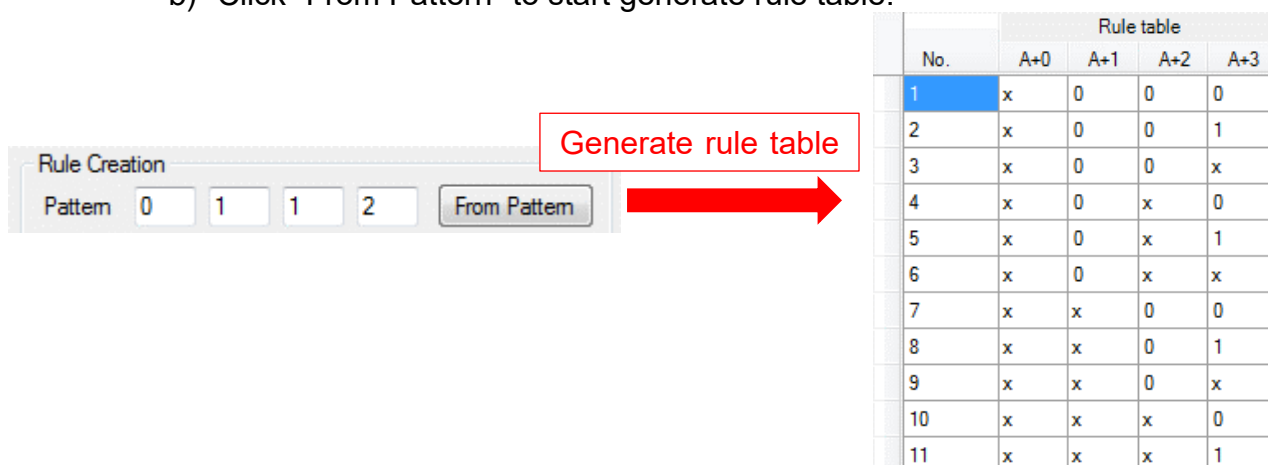

Figure 5-5 Example rule data table pattern.
- i) Generate rule data table from pattern as show in Figure 5-5.